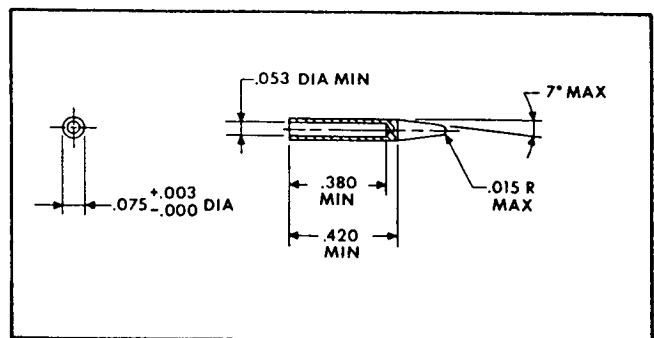

Figure 3-2. Expander Tool Dimensions
h. Slide rear insulator onto expander, Bendix P/N 11-10136, found in Bendix Coaxial Bushing Installation Kit P/N 11-10134 or locally fabricated equivalent. (See Figure 3-2 for dimensional data.)